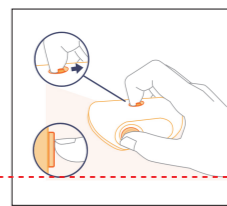
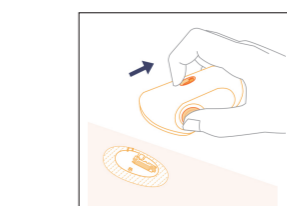

Figure 12 Unlock the Safety Pin and Insert the Sensor
Figure 13 Remove the Applicator
- Move the safety pin to the unlock position. Hold the applicator steady and push the release buttons to insert the sensor. After sensor insertion, carefully remove the applicator from the sensor. Dispose the applicator in a medical waste bin (Figure 12 and Figure 13).